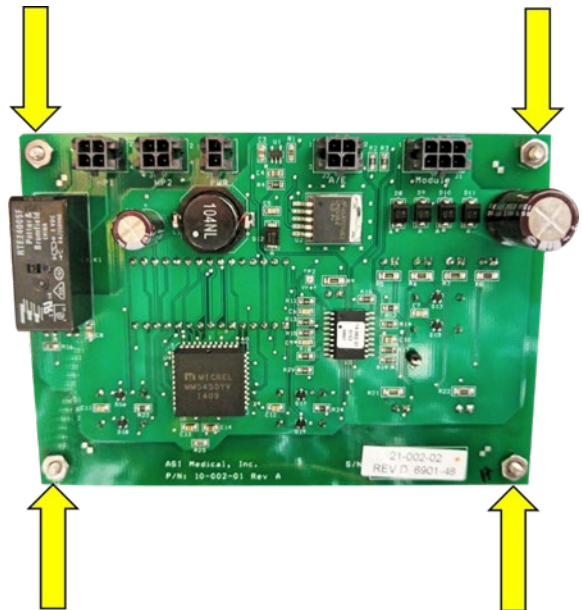

Fig. 1
- 3 Locate four nuts on the control/button board. Untighten using a 1/4" nut driver. (Fig. 1)